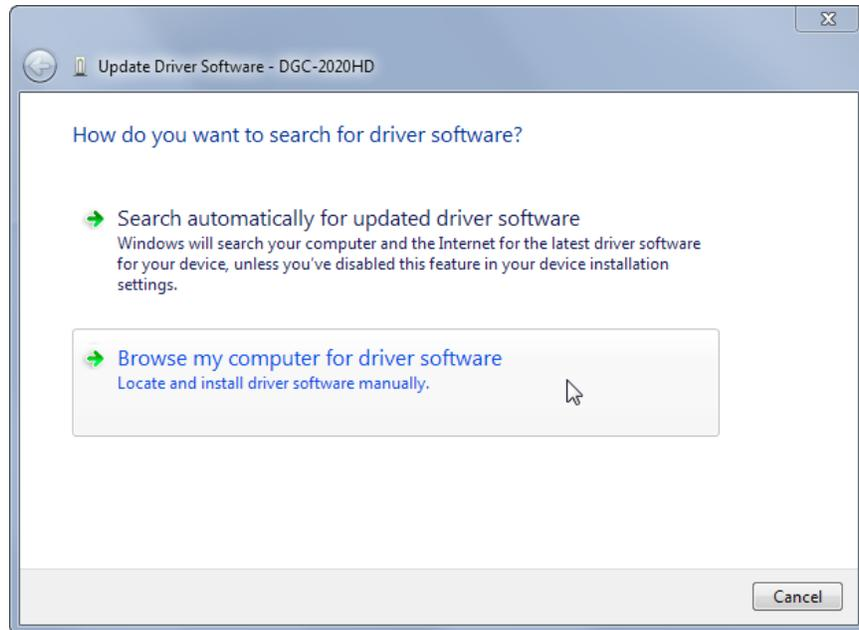

Figure 8-4. Update Driver Software - DGC-2020HD
Step 4. Select Browse My Computer for Driver Software as shown in Figure 8-4.